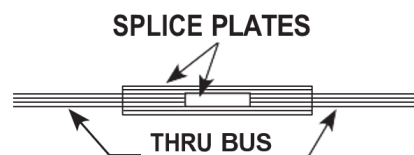
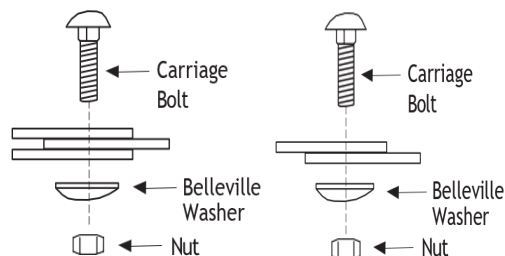

Figure 4-4 Installing Splice Plates over Thru Busses.
Figure 4-5 Typical Bolt Alignment for Tie Plates
- If more than one splice plate is provided per phase, install a splice plate on each side of the through bus, as shown in **Figure 4-4**. **Figures 4-5** through **4-11** illustrate various types of bus coupling